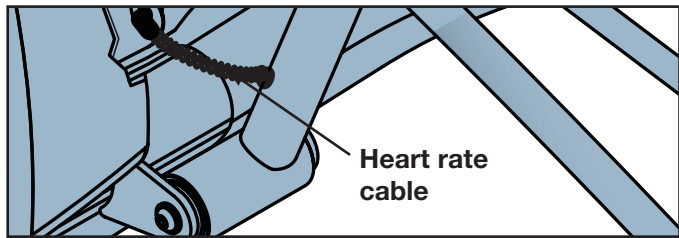

Figure 3
- C. Unplug the heart rate cable. See Figure 3.